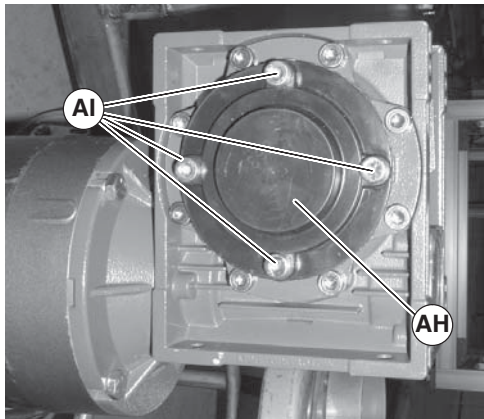

Figure 17
4. Install cover (Figure 17, item AH) with four (4) screws (AI).